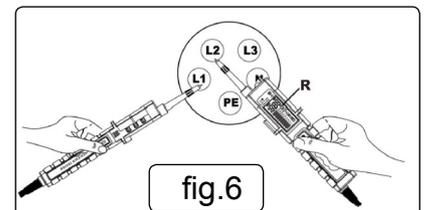

fig.6
- 5.3.10. If the rotation is clockwise, LCD will display "R" (fig.6).